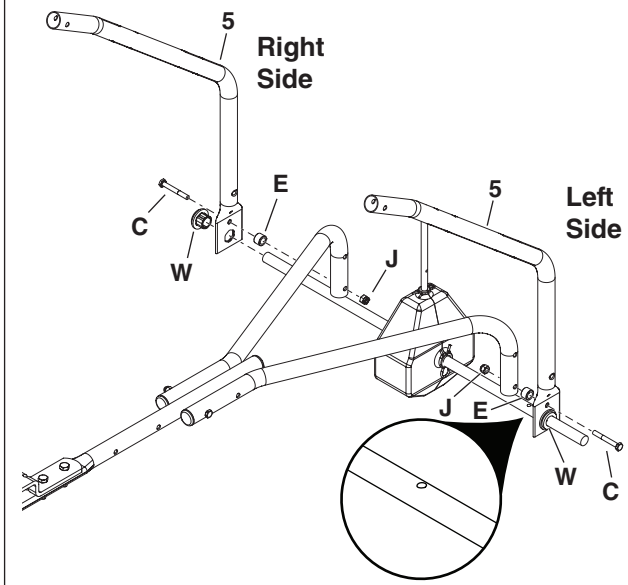

Figure 3
STEP 3: (SEE FIGURE 3)
- Insert the hex bushings (W) into the ends of the hopper support tubes (5).
- Assemble the axle/gearbox assembly and hopper support tubes (5) to the hitch support tubes as shown one 1/4" x 2" hex bolt (C), spacer (E), and 1/4" nylock nut (J). **Do not tighten completely.**